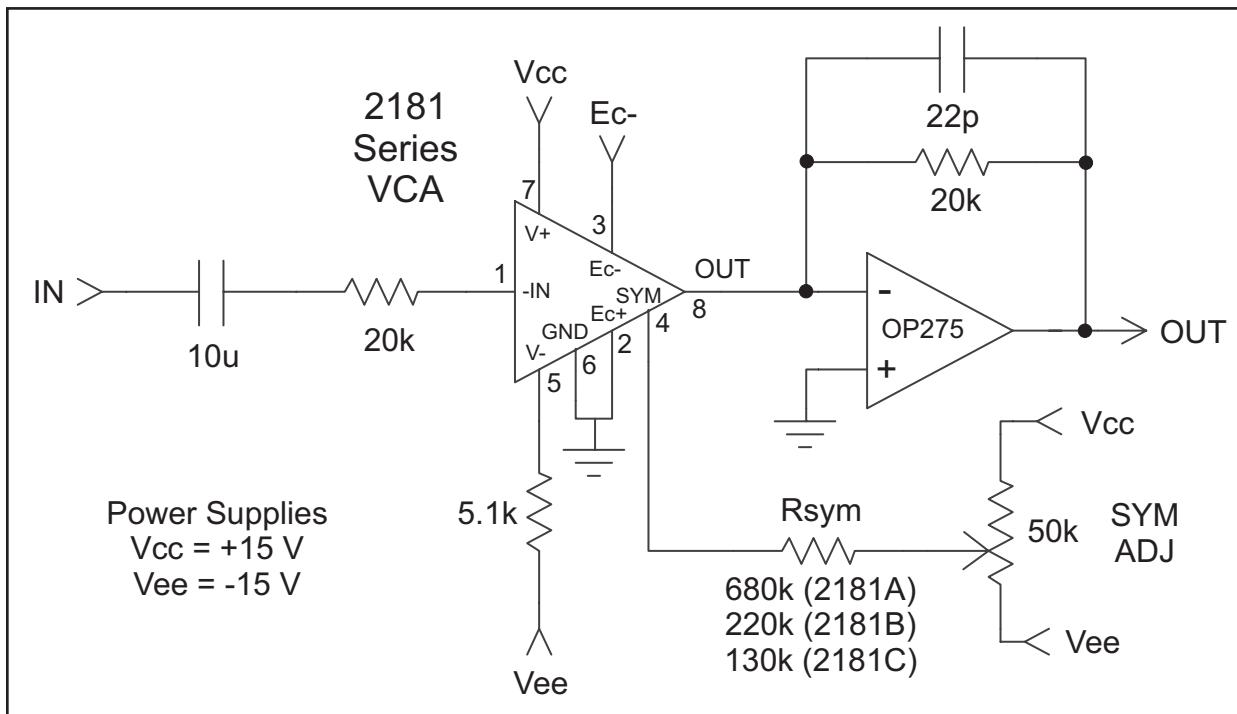
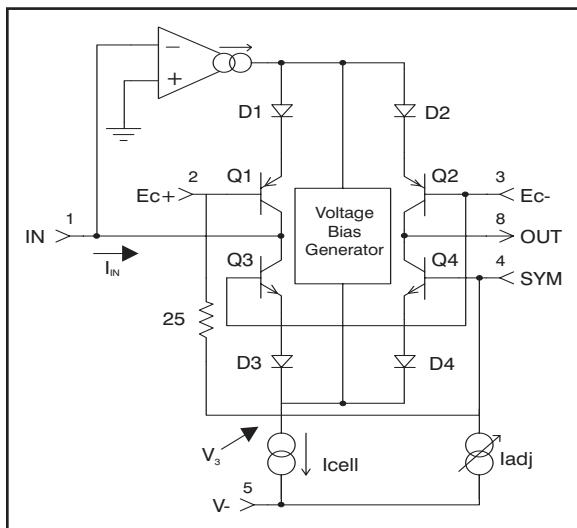
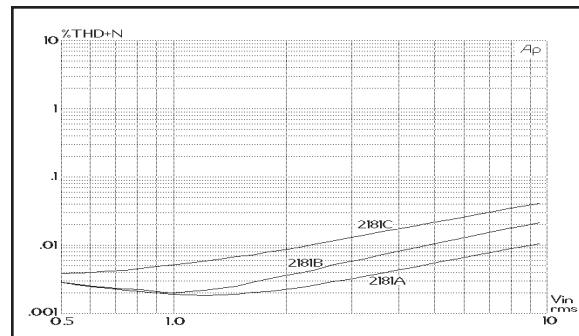

Figure 2. Typical Application Circuit
Figure 5. Simplified Internal Circuit Diagram
Figure 10. 1 kHz THD+N Vs. Input Level, 0 dB Gain
2. Unless otherwise noted, $T_A = 25^\circ\text{C}$, $V_C = +15\text{V}$, $V_{EE} = -15\text{V}$. Test circuit is as shown in Figure 2. SYM ADJ is adjusted for minimum THD at 1 V, 1 kHz, $E_{C-} = -E_{C+} = 0\text{V}$
Figure 5 presents a considerably simplified internal circuit diagram of the IC. The ac input signal current flows in pin 1, the input pin. An internal operational transconductance amplifier (OTA) works to maintain pin 1 at a virtual ground potential by driving the emitters of Q1 and (through the Voltage Bias Generator) Q3. Q3/D3 and Q1/D1 act to log the input current, producing a voltage, V3, which represents the bipolar logarithm of the input current. (The voltage at the junction of D1 and D2 is the same as V3, but shifted by four forward V_{be} drops.)
The 2181 current consumption is determined by the resistor between pin 5 (V-) and the negative supply voltage (V_{EE}). Typically, with 15V supplies, the resistor is 5.1 kΩ, which provides approximately 2.4 mA. This current is split into two paths: 570 μA is used for biasing the IC, and the remainder becomes I_{cell} as shown in Figure 5. I_{cell} is further split in two parts: about 20 μA biases the core transistors (Q1 through Q4), the rest is available for input and output signal current.
The 2181-Series VCAs are intended to be adjusted for minimum distortion by applying a small variable offset voltage to pin 4, the SYM pin. Note that there is a 25 Ω resistor internal to the 2181 between pin 4 and pin 2. As shown in Figure 2, Page 3, the usual method of applying this offset is to use the internal 25 Ω resistor along with a
The 2181-Series VCA design, fabrication and testing ensure extremely good audio performance when used as recommended. The 2181 maintains low distortion over a wide range of gain, cut and signal levels. Figures 10 through 12 show typical distortion performance for rep-
The Input pin (pin 1) is a virtual ground with negative feedback provided internally (see Figure 5, Page 4). The input resistor (shown as 20 k Ω in Figure 2, Page 3) should be scaled to convert the available ac input voltage to a current within the linear range of the device. Generally, peak input currents should be kept under 1 mA for best distortion performance.
Refer to Figures 10 through 12 to see how distortion varies with signal level for the three parts in the 2181 Series for 0 dB, +15 dB and -15 dB gain. The circuit of Figure 2, Page 3 was used to generate these curves.
A designer may trade off noise for distortion by decreasing the 20 k Ω current-to-voltage converting resistors used at the input and output in Figure 2, Page 3. For every dB these resistor values are de-
The Output pin (pin 8) is intended to be connected to a virtual ground node, so that current flowing in it may be converted to a voltage (see Figures 2 & 15). Choose the external opamp for good audio performance. The feedback resistor should be chosen based on the desired current-to-voltage conversion constant. Since the input resistor determines the voltage-to-current conversion at the input, the familiar ratio of R_f/R_i for an inverting opamp will determine the overall voltage gain when the 2181 is set for 0 dB current gain. Since the VCA performs best at settings near unity gain, use the input and feedback resistors to provide design-center gain or loss, if necessary.
The SYM pin (pin 4) is actually a sort of additional positive-sense control port. It is provided to allow V_{be} mismatches in the core transistors to be adjusted after packaging and installation in the circuit board. It should only be used for this purpose. Connect pin 4 only to a high-impedance source as shown in Figures 2 and 15.